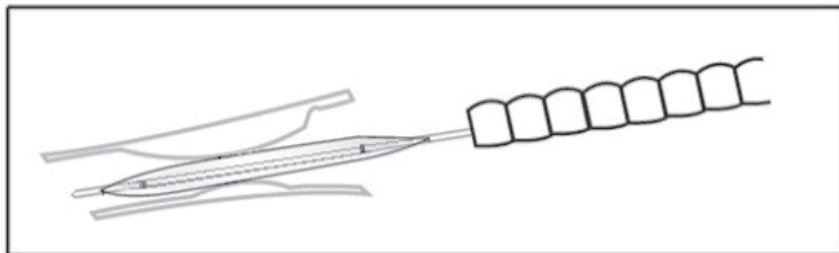

Figure 3
5. Insert the balloon into the endoscope working channel, and advance it until it gets through the stricture. Continue to advance the balloon until the desired position is achieved. The position can be verified through fluoroscopy with the help of the radiopaque markers (See Figure3).